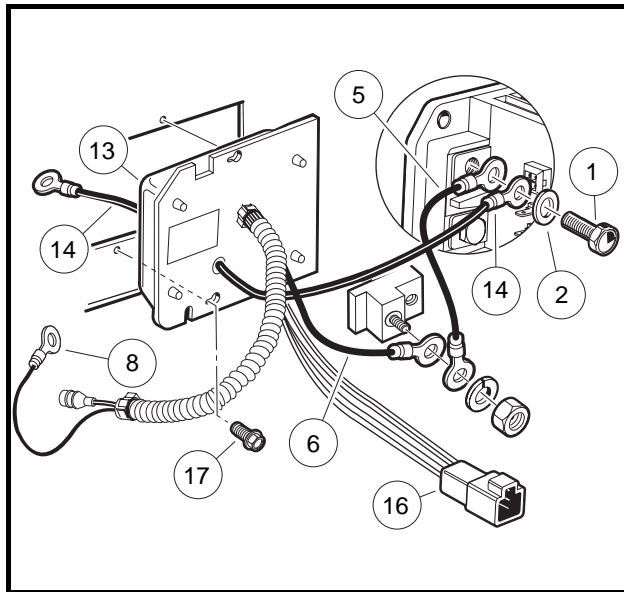
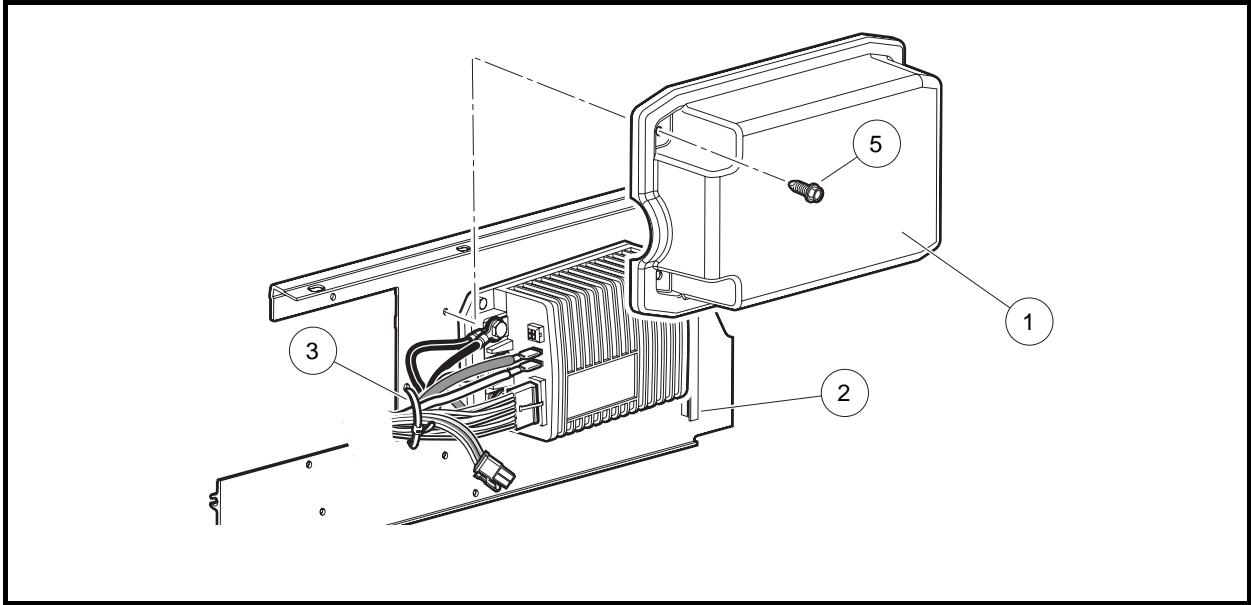

Figure 13-6 Onboard Computer
Figure 13-7 Speed Controller Cover
2. Remove rear body access panel and unplug the six-pin connector (16) at the OBC (Figure 13-6, Page 13-9).
3. Remove the two screws (5) from the speed controller cover (1) and remove the cover (Figure 13-7, Page 13-11).
4. Remove the wire tie (3) securing the speed controller wires to the mounting plate.
5. Remove black 6-gauge wire (14) from the speed controller B- terminal (Figure 13-6, Page 13-9).
6. Remove the black 10-gauge wire (5) from the speed controller B- terminal and black 10-gauge wire (6) from the accessory mounting terminal (Figure 13-6, Page 13-9).
8. Disconnect the black 10-gauge wire (8) at the charger receptacle.
10. Loosen, but do not remove, the two self-tapping screws (17) holding OBC to component mounting plate.
11. Slide OBC towards outside of vehicle and align heads of self-tapping screws (17) with the two holes in the OBC face plate. Pull OBC towards rear of vehicle and remove from component mounting plate.
3. Install the OBC onto the component mounting plate by aligning the two holes on the OBC face plate with two holes on component mounting plate. Slide OBC towards inside of vehicle and align heads of self-tapping screws (17) with smaller part of two holes in OBC face plate (**Figure 13-6, Page 13-9**). Tighten screws to 60 in-lb (6.7 N·m). **See following NOTE.**
4. Secure the OBC wire harness (consisting of the black 10-gauge wire (8) and the gray wire fuse holder) to the I-beam with wire ties (**Figure 13-6, Page 13-9**).
5. Connect the black 10-gauge wire (8) to the charger receptacle. Tighten to 23 in-lb (2.6 N·m).
7. Connect the black 10-gauge wire (6) and the black 10-gauge wire (5) to the accessory mounting terminal. Install the nut on the accessory terminal and tighten to 9 ft-lb (12.2 N·m).
8. Connect the black 6-gauge wire (14) (and black 10-gauge wire (5), if early OBC) to the speed controller B- terminal with the washer (2) and bolt (1) and tighten to 9 ft-lb (12.2 N·m).
9. Plug the six-pin connector (16) from the OBC into the vehicle wire harness.
10. Install a wire tie (3) to tightly secure the speed controller wires to the component mounting plate (**Figure 13-7, Page 13-11**).
11. Place the edge of the speed controller cover (1) into the slot (2). Press the controller cover onto the component mounting plate over the speed controller and install the two screws (5) (**Figure 13-7, Page 13-11**). Tighten the screws (5) to 60 in-lb (6.8 N·m). **See following NOTE.**
3. Remove the two screws (5) from the speed controller cover (1) and remove the cover (**Figure 13-7, Page 13-11**).
- Place the edge of the speed controller cover (1) into the slot (2). Press the controller cover onto the component mounting plate over the speed controller and install the two screws (5) (**Figure 13-7, Page 13-11**). Tighten the screws (5) to 60 in-lb (6.8 N·m). **See following NOTE.**